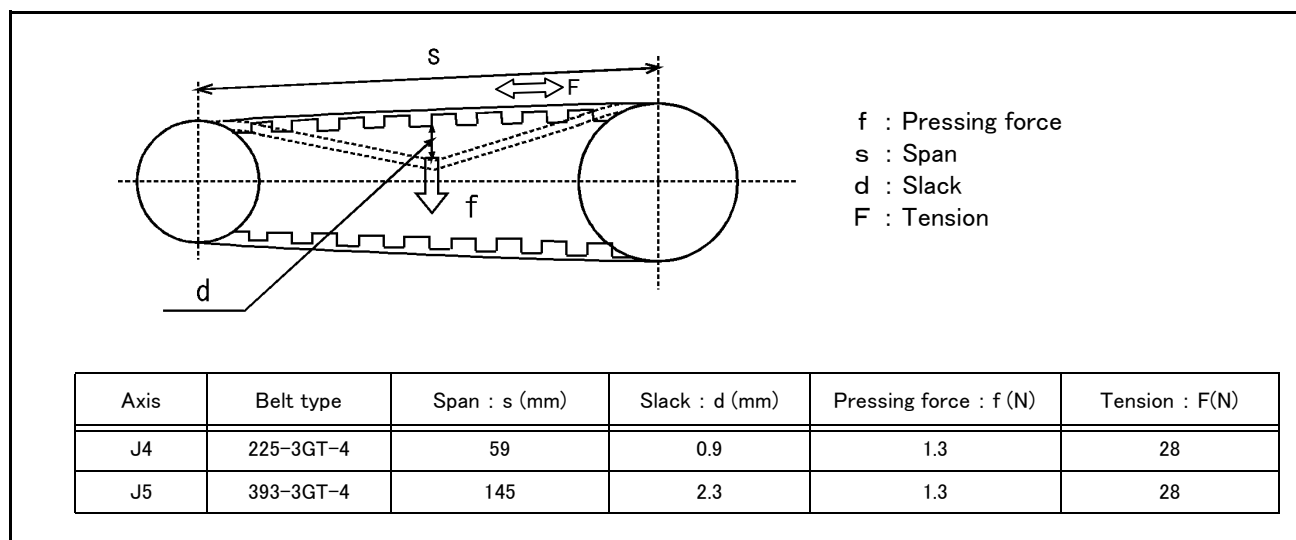

Fig.5-8 : Belt tension
- 4) Confirm that the belt tension is adjusted to slacken approx. 0.9mm when the center of the belt is lightly pressed with a finger (approx. 1.3N) as shown in "Fig.5-8 : Belt tension".
- 4) Confirm that the belt tension is adjusted to slacken approx. 2.3mm when the center of the belt is lightly pressed with a finger (approx. 1.3N) as shown in "Fig.5-8 : Belt tension".
The detailed adjustment (tension) is shown in Fig. 5-8.